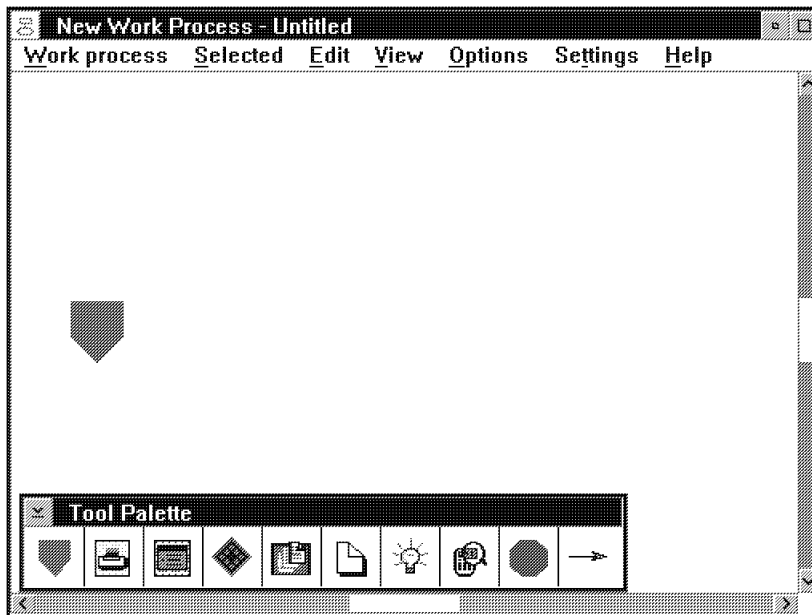

Figure 26. Work Process Window
2. Select **Create another** from the **Edit** pull-down. You see the Work Process window shown in Figure 26. The title bar of the window reads **New Work Process** to indicate that you are in create mode. For more information on Work Management Builder editing modes, see “Working in Different Edit Modes” on page 25.
2. Double-click on the icon. You can also select the work process icon and then select **Open** from the **Selected** pull-down. You see the Work Process window shown in Figure 26 on page 52. The title bar of the window reads **Update Work Process** to indicate that you are in update mode. For more information on Work Management Builder editing modes, see “Working in Different Edit Modes” on page 25.
1. Double-click on the icon representing the work process you want to browse in the Work Processes container window. You can also select the work process icon and then select **Open** from the **Selected** pull-down. You see the Work Process window shown in Figure 26 on page 52. The title bar of the window reads **Browse Work Process** to indicate that you are in browse mode. For more information on Work Management Builder editing modes, see Chapter 8, “Using the Work Process Window” on page 56.